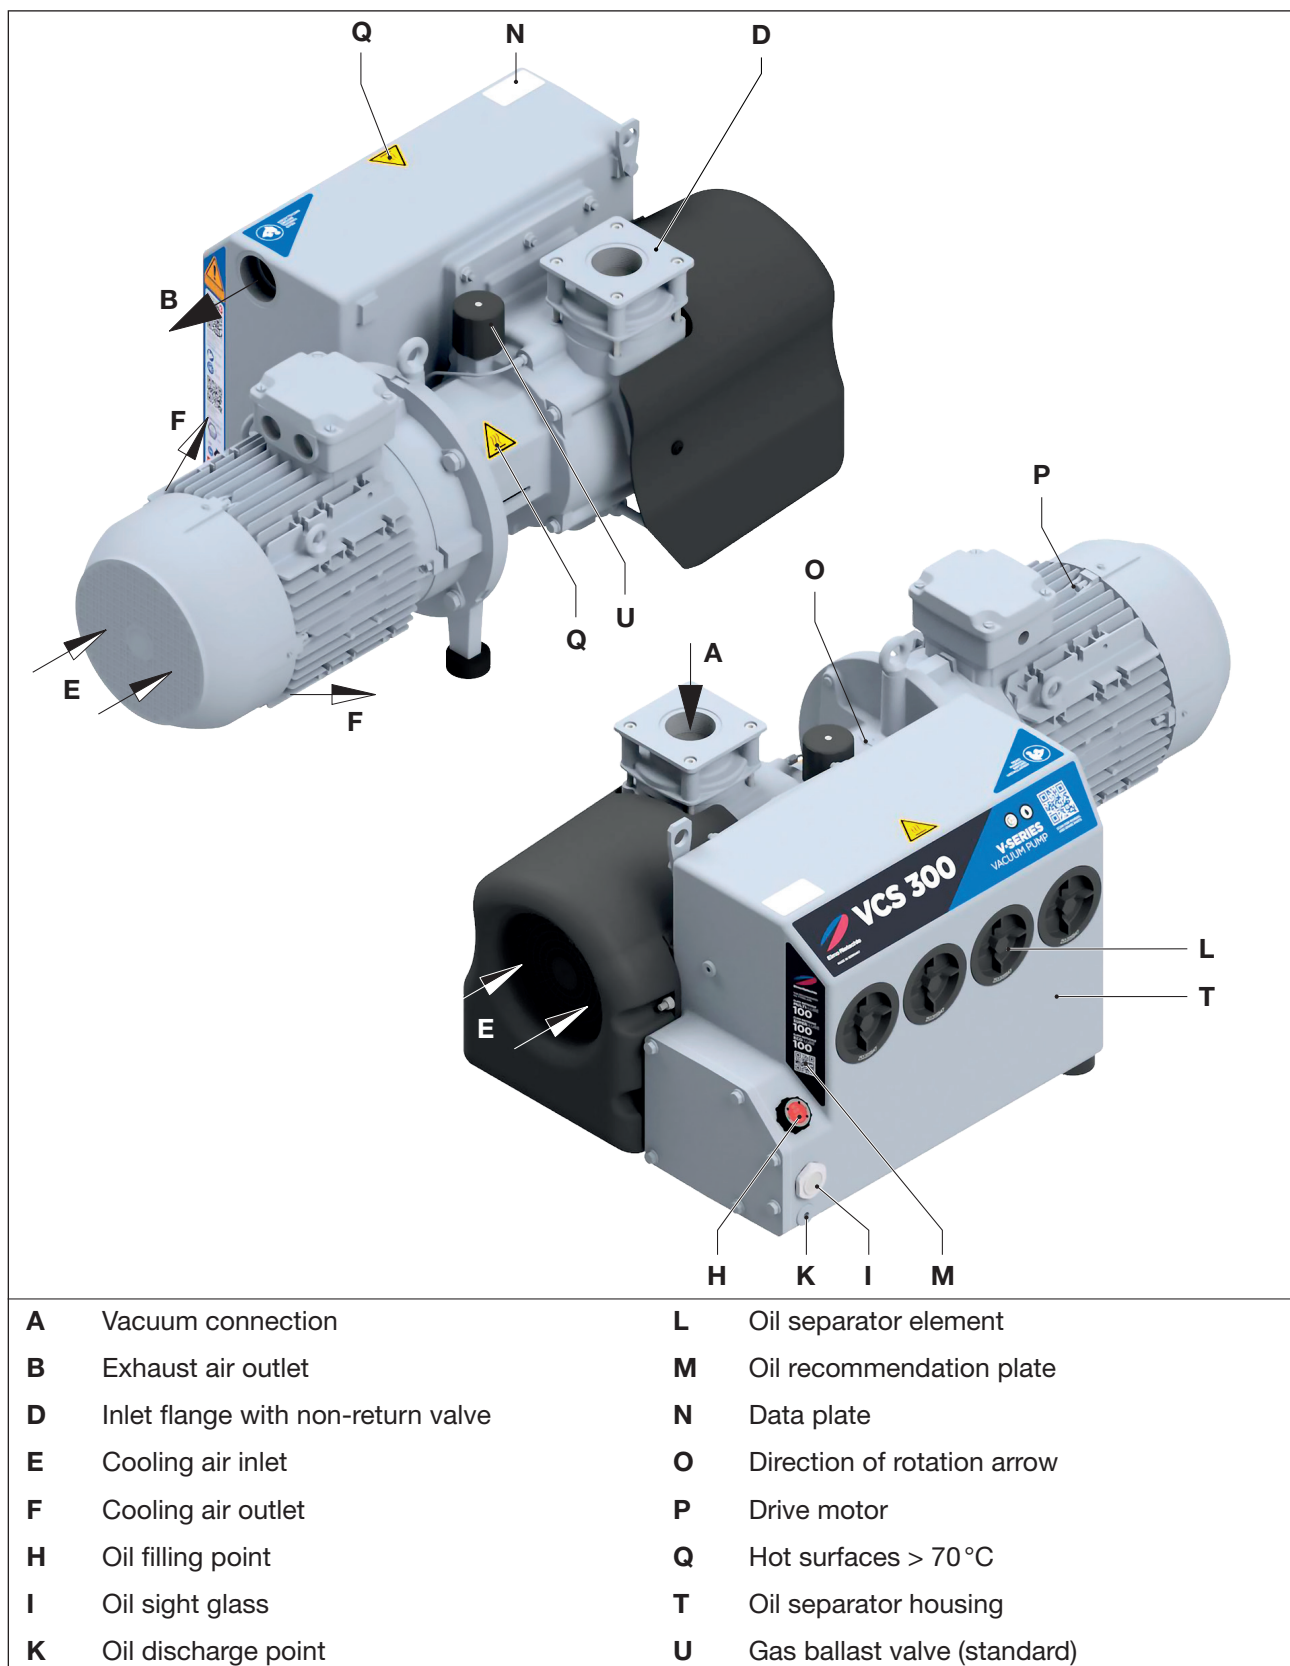

Fig. 2 Vacuum pump V-VCS 200 / 300
When the pump is at operating temperature, a standard gas ballast valve (Fig. 2/U) prevents the condensation of low quantities of water vapour inside the pump. The water vapour compatibility may vary depending on the pump version (see Info I200).
- Suction flange (Fig. 2/D), Oil filling point (Fig. 2/H), Oil sight glass (Fig. 2/I), Oil drain (Fig. 2/K), Gas ballast (Fig. 2/U) and de-oiler housing (Fig. 2/T) must be easily accessible.
The vacuum connection (Fig. 2/A) is located on the suction flange (Fig. 2/D).
- a) Remove the blind plugs on the suction connection (Fig. 2/A) and exhaust air outlet (Fig. 2/B).
- b) Connect the pipes with the vacuum connection (Fig. 2/A).
- c) The exhausted air can be blown out through the exhaust air outlet (Fig. 2/B) or conducted away using a hose or pipeline.
- Check the lubricating oil level through the oil sight glass (Fig. 2/I) and top up, if necessary.
- Fill the lubricating oil (for suitable types see chapter 7.6 “Lubricating Oil”) via the oil filling point (Fig. 2/H) up to the upper edge of the sight glass (Fig. 2/I).